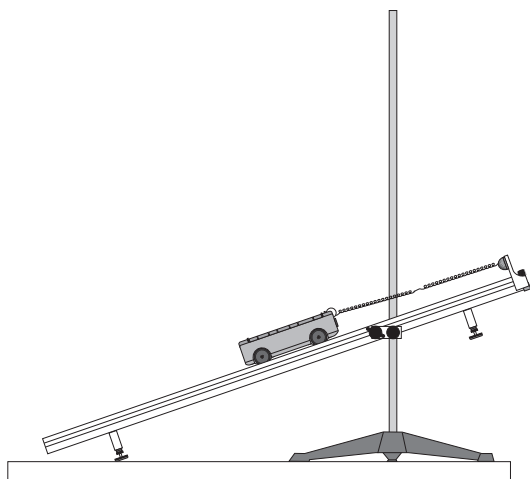

Figure 6.2: Springs in Series
- Add a second spring in series as shown in Figure 6.2 and repeat Step 4.